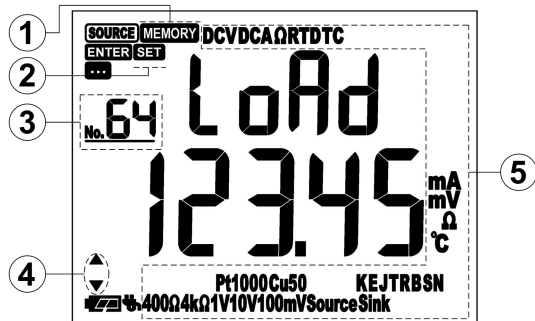

Figure 5.8 Display screen for reading the common output value
- (1) During the normal operation of C512, the key **RECALL** was pressed and C512 switched to display of reading state: the displaying content was shown in [figure 5.8].
- (2) By pressing the key of  to switch and select the reading locations of 1~64, and the location number was displayed on the left up corner. With the switch of the reading position, the stored value, signal type and unit information that